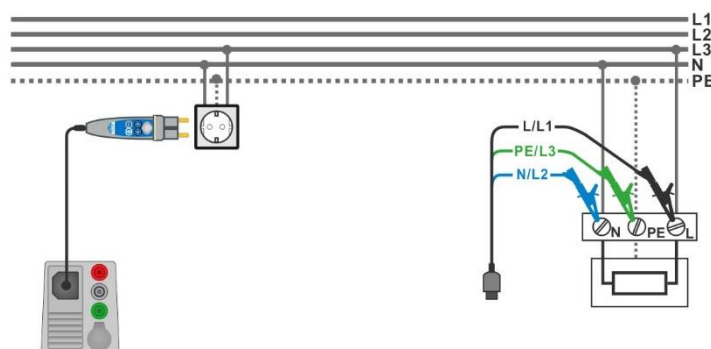

Figure 7.40: Connection of Plug commander and 3-wire test lead
- Connect 3-wire test lead or Plug commander to the object under test, see **Figure 7.40**.